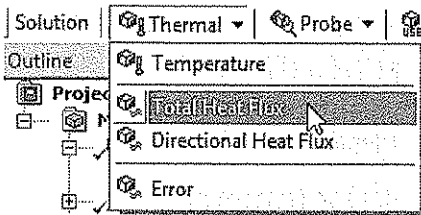

Figure 11-20 Choosing Total Heat Flux from the Thermal drop-down
14. Choose **Total Heat Flux** from the **Thermal** drop-down in the **Solution** contextual toolbar, as shown in Figure 11-20; **Total Heat Flux** with a yellow thunderbolt is added under the **Solution** node in the Tree Outline. Also, the **Details of “Total Heat Flux”** window is displayed.